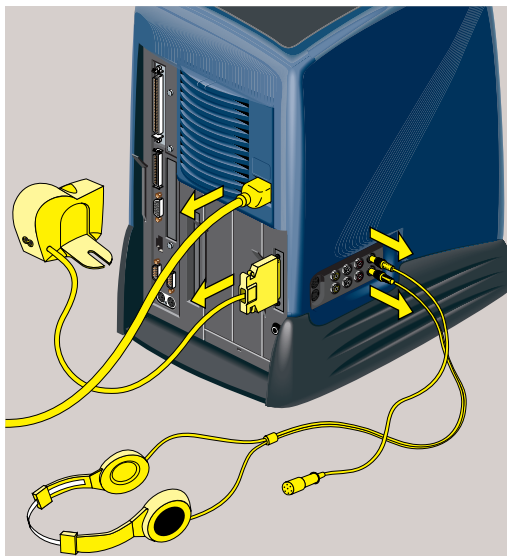

Figure 3-3 Disconnecting the Power Cable and Other Cables
3. To remove the panel over the optional drive bay, you must first remove the audio-visual module located on the far right as you face the rear of the workstation. First, remove the power cable from the rear and any audio-visual cables that are connected to the side panel (Figure 3-3).